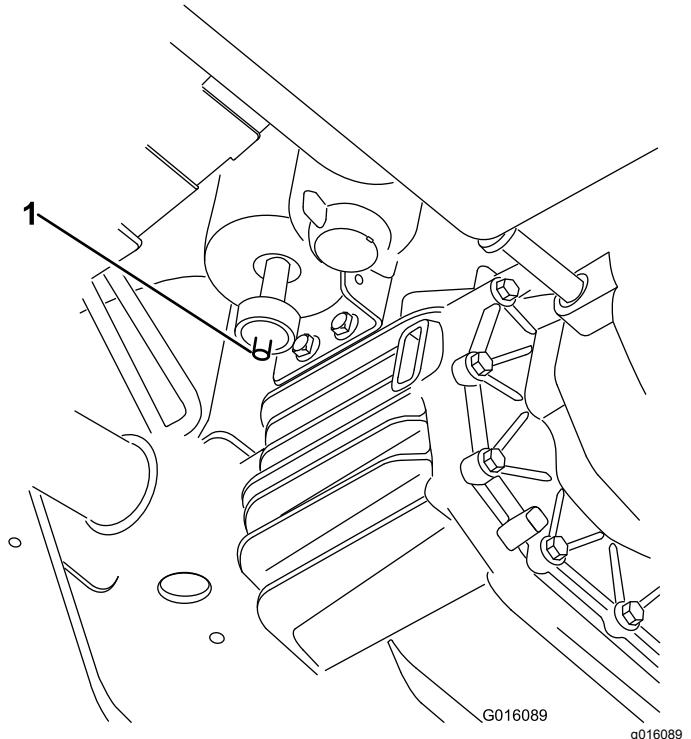

Figure 36
1. Locate the air filter on the bottom of the carbon canister (Figure 36).